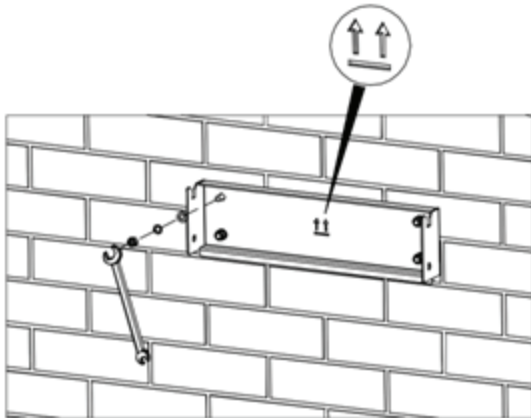

Figure 13: Fixer le support d'installation
(4) Fix the installation bracket onto the expansion bolts and ensure the installation is firm enough (tightening torque is $13\text{N}\cdot\text{m}$). As shown in Figure 13.